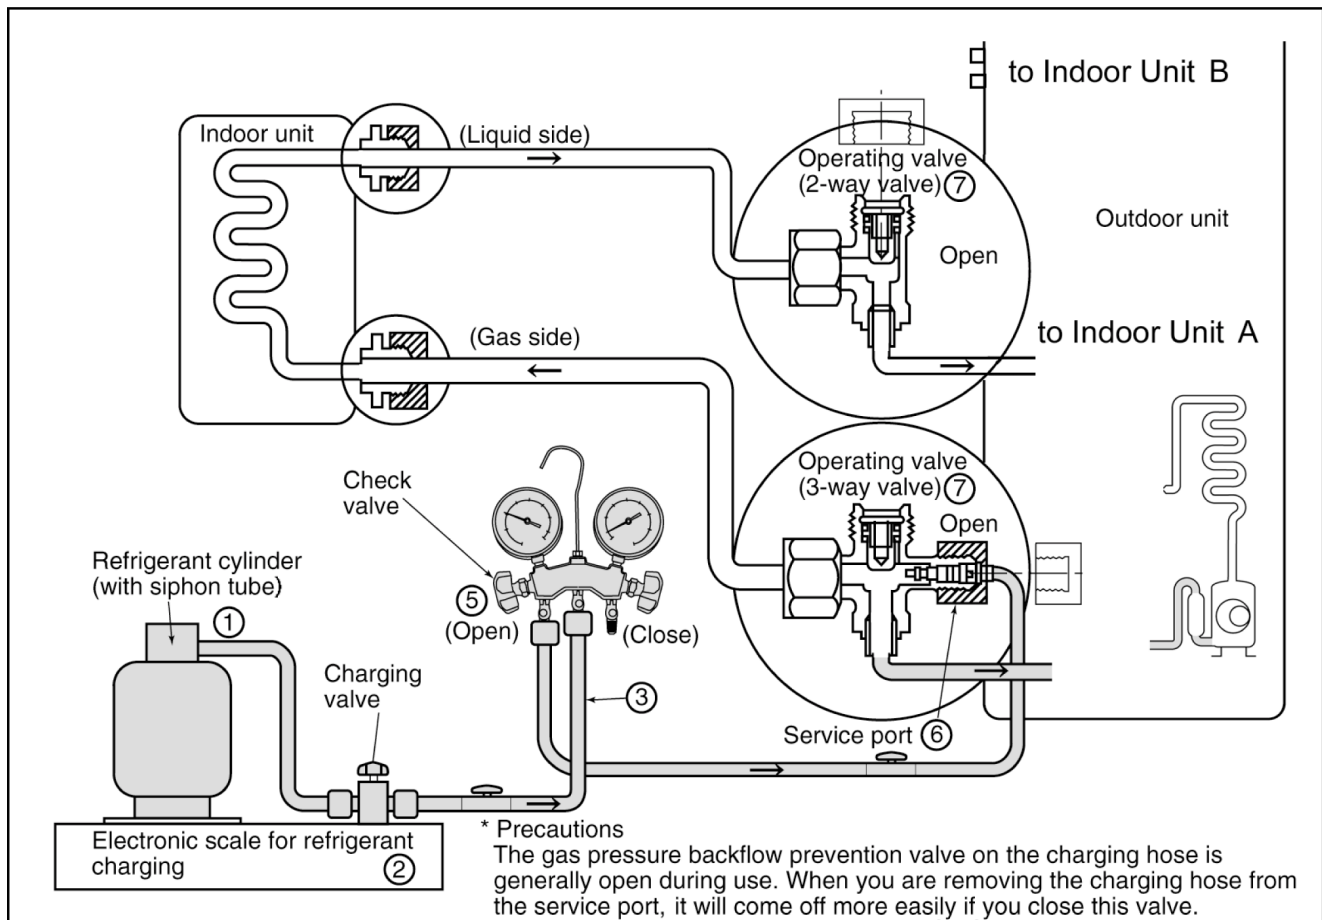

Fig. 13 Re-charging refrigerant
4. Confirm that the low pressure gauge shows a reading of -0.1 MPa (-76 cmHg), then fully close the handle Lo, and turn off the vacuum pump. Wait for 1-2 minutes, then check to make sure that the needle of the Low pressure gauge has not returned. See Fig. 13 for the remaining steps of this procedure.
5. Set the refrigerant cylinder onto the electronic scale, then connect the hose the cylinder and to the connection port for the electronic scale. (1)(2)